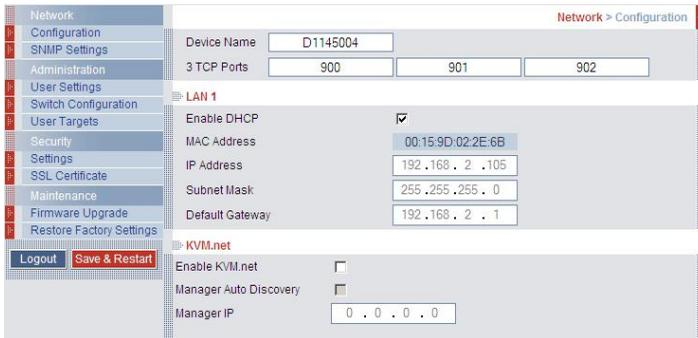

Figure 25 SmartRack 116 IP Web interface
4. Press **Enter**. The Web interface opens at the Network Configuration page. See Figure 25.
Under LAN 1 in Figure 25, is the following: